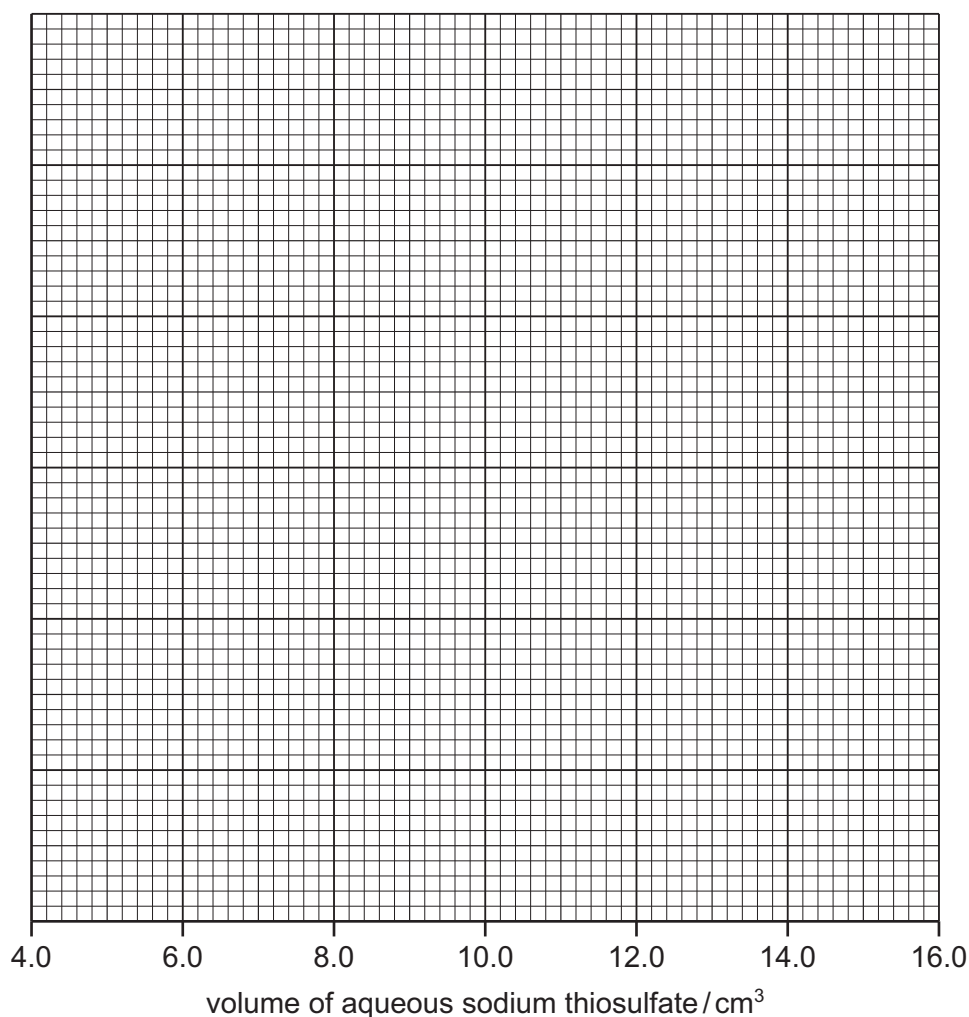

Fig. 2.2
- (b) Write a suitable scale on the y -axis and plot the results from Experiments 1 to 5 on Fig. 2.2. Draw a smooth curve of best fit.
- (e) Use your graph in Fig. 2.2 to predict the time taken for the text to become visible if the volume of aqueous sodium thiosulfate is 12.5 cm^3 . Show your working on Fig. 2.2.